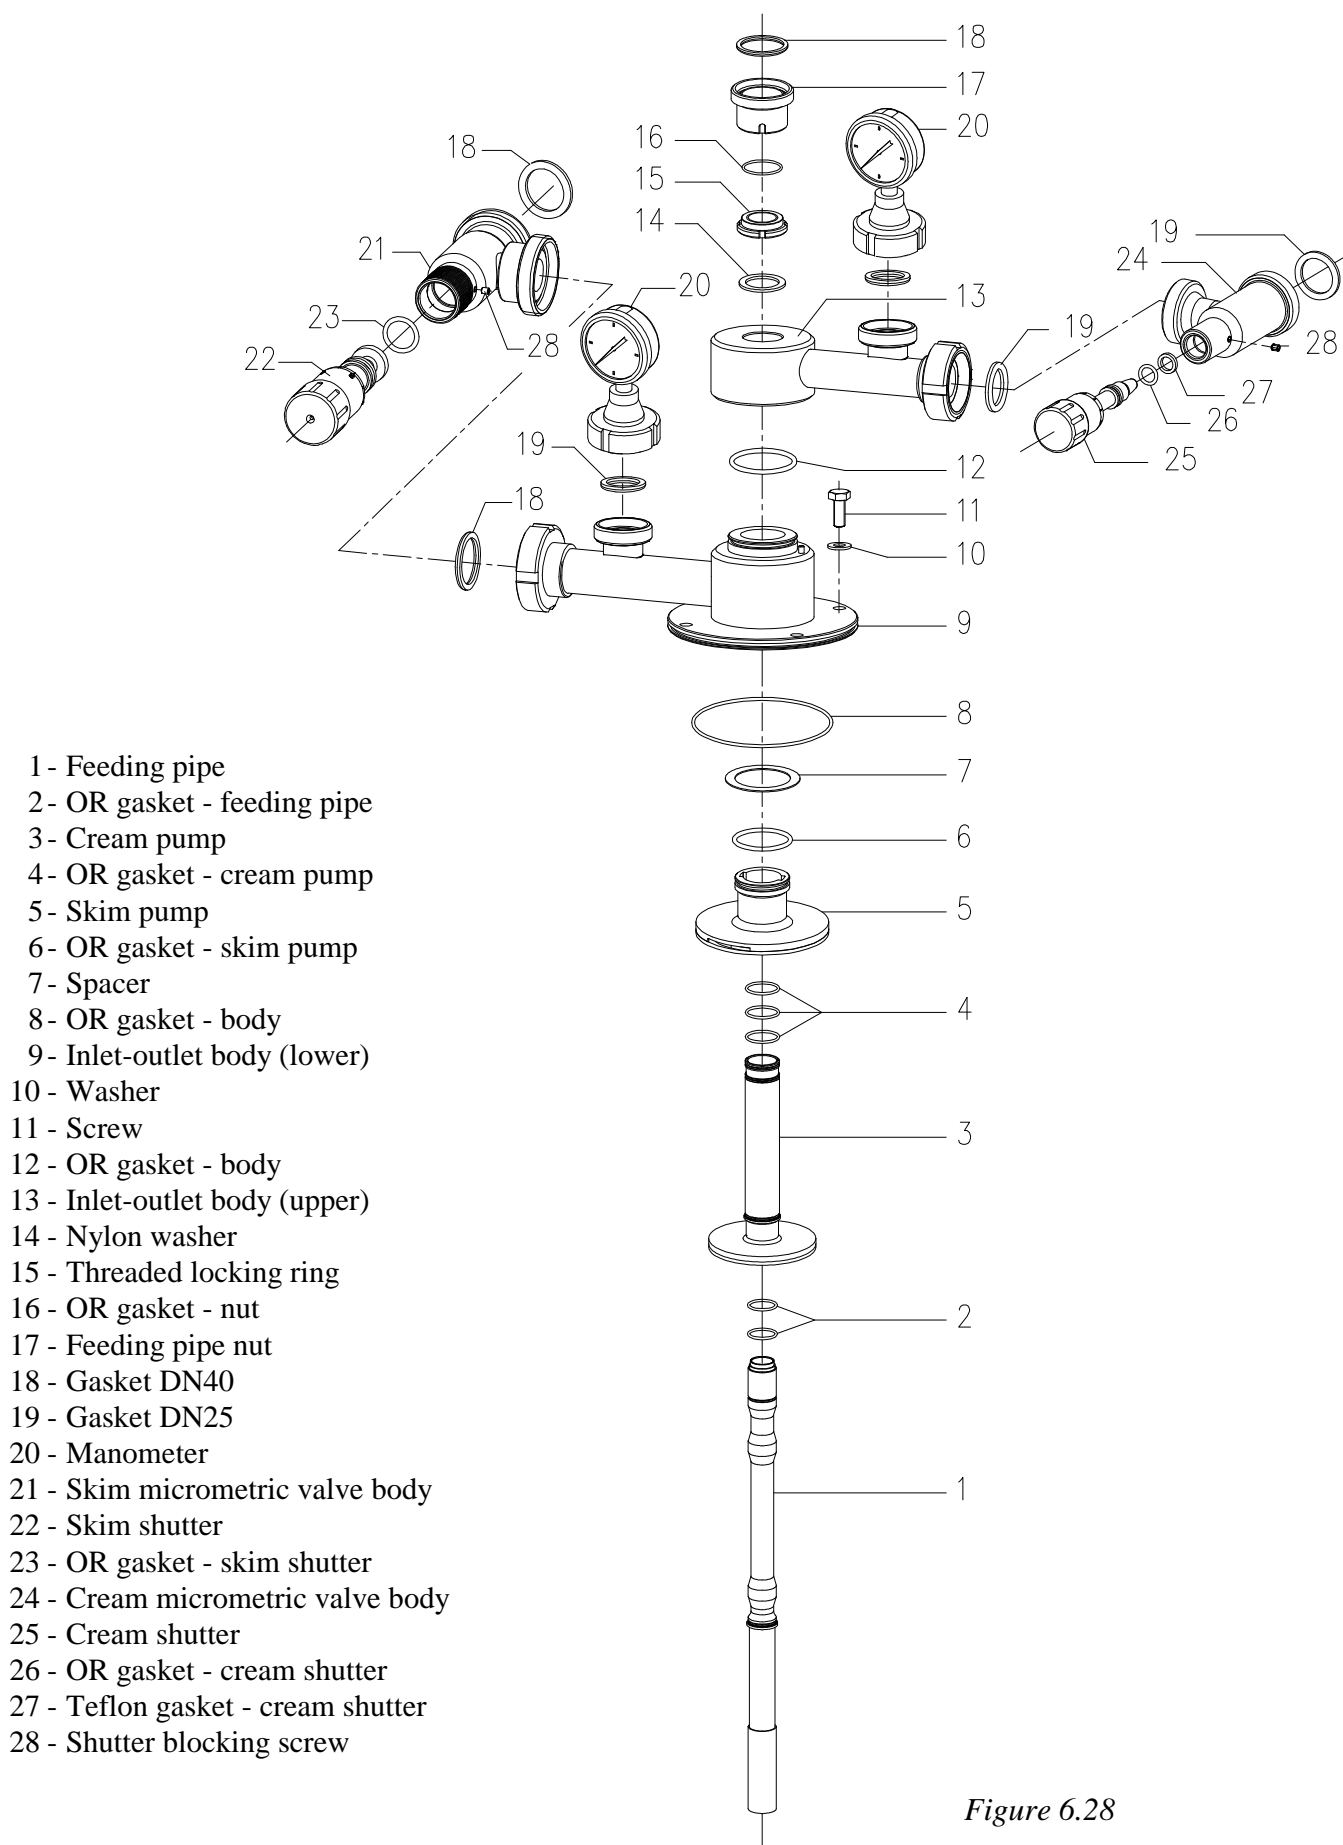
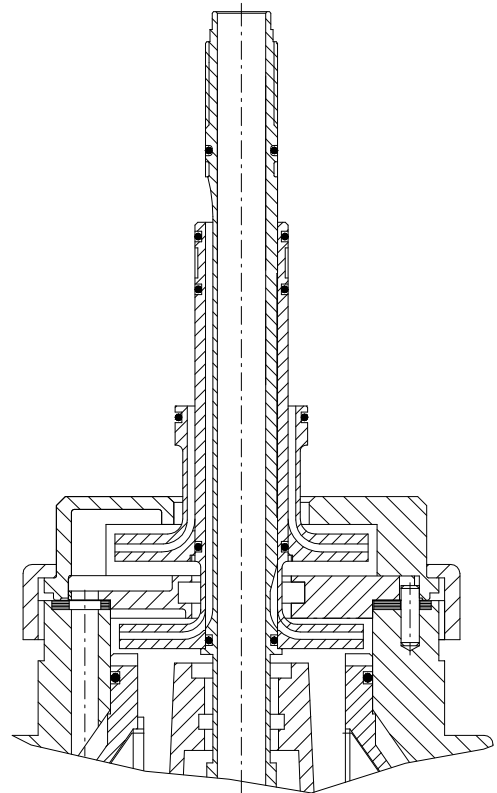

Figure 6.28
Figure 6.29
- 18) After carefully cleaning the grooves, insert the **OR gaskets** on feeding pipe and on the centripetal pumps (see fig. 6.28).
Proceed according with the following procedure (see fig. 6.28):
Block the shutters screwing the screw (28 fig. 6.28) into the appropriate holes of the valve body.
The correct position of the pumps (fig. 6.29) is in the middle of the corresponding chambers of the bowl. This position is obtained by inserting a few spacers (7) - fig. 6.28 - between the skim pump (5) and the inlet-outlet flow unit body (9). The number and thickness of spacers may vary only after the replacement of some parts of the vertical shaft unit (Tab.06) and/or of the bowl (Tab.03) and/or of the inlet-outlet flow unit (Tab.04). In this case it is advisable to vary corresponding number and thickness of spacers indicated on data sheet § 3.3. The total thickness of spacers is determined by the following relation:
Proceed in inverse order than assembly (see Fig. 6.28).